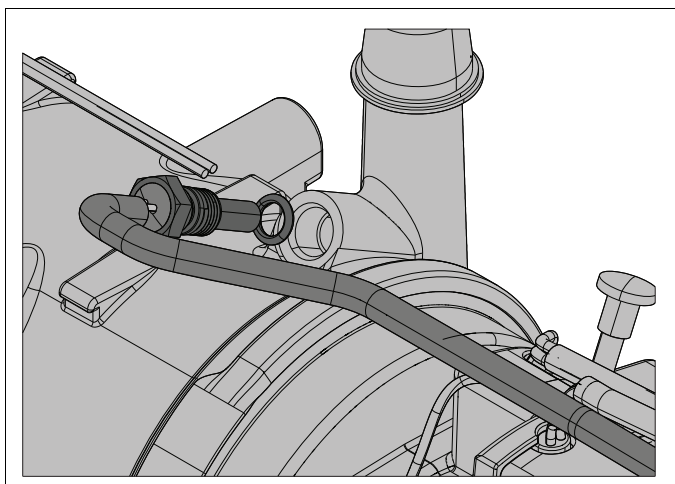

Fig. 806 Coolant temperature sensor removal
3. Unscrew coolant temperature sensor (Fig. 806) (13 mm hexagon) and remove together with O-ring.